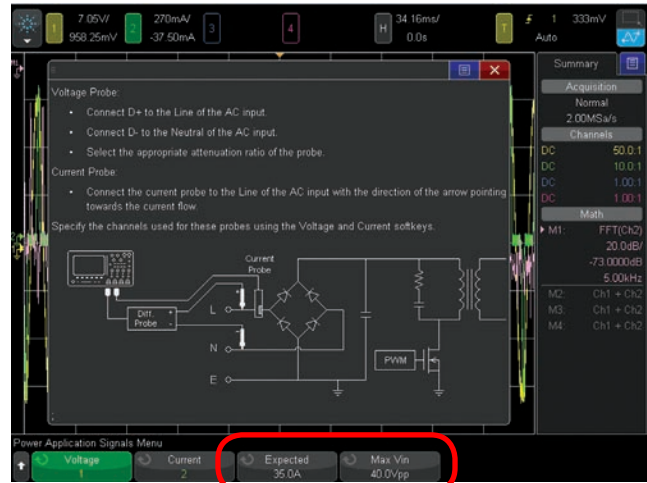

Figure 13: Setting “expected” inrush current and peak-to-peak line voltage for a single-shot inrush current measurement.
4. Press the **Signals** softkey; then connect the N2790A voltage probe between the scope’s channel-1 input to Line (red lead) and Neutral (back lead) as illustrated in the connections diagram shown in Figure 13. If using Agilent’s SMPS training kit, connect to **TP2** (red lead) and **TP1** (black lead) on the demo board.